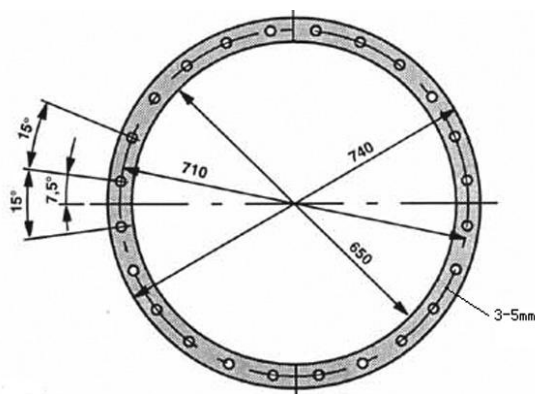

Figure 11
The on-load tap-changer head must be mounted on the tank cover with a mounting flange (see appendix 6) and an oil-resistant sealing gasket (figure 11).(provided by user)
- (1) Place the diverter switch housing on the water platform.
- (2) Wipe the sealing surface of the switch head and mounting flange.
- (3) Place an oil-resistant seal on the mounting flange of the transformer cover (Figure 11).
- (4) Lift the diverter switch oil compartment and carefully drop it into the opening of the mounting flange.
- (2) Assemble the tap selector and diverter switch as described in Section 4.1.3.
- (3) Wipe the sealing surface of the switch head and the mounting flange.
- (4) Place an oil-resistant gasket on the mounting flange of the transformer cover (Fig 11).
- (5) Lift the entire switch and carefully drop it into the opening of the mounting flange.
When the tap-changer head flange is installed on the transformer cover, the mounting flange (see Appendix 6) and the oil-resistant gasket (Fig. 11) must be used.